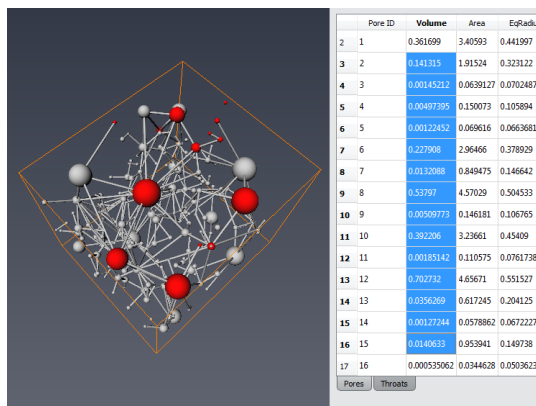

Figure 24.16: Highlighted Pores
- When displaying the PNM with a *Pore Network Model View* and displaying the spreadsheet at the same time in the table view, it is possible to highlight the pores or the throats that are selected in the table from the Pores table or the Throats table. Select pores in the table by left-clicking on one or several lines (i.e., left click + hold on a line and move up or down the table without releasing). The corresponding pores will be highlighted in red in the 3D view (see Figure 24.16).